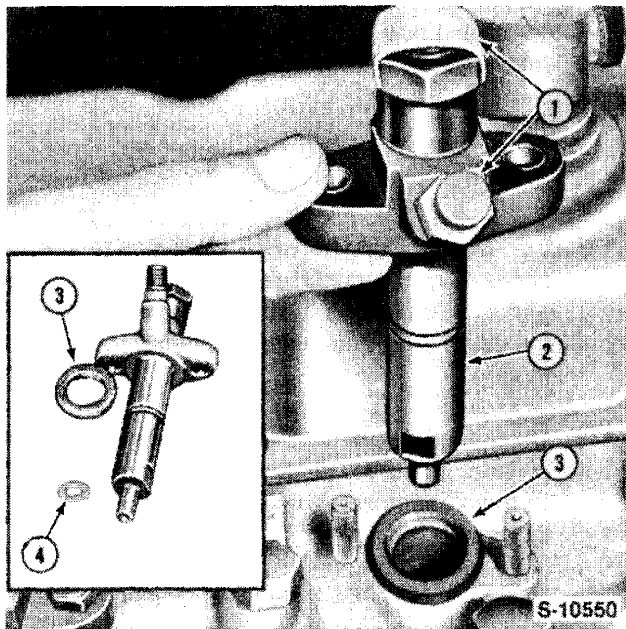

Figure 3
16. Remove the fuel injector leak-off line. Clean the area surrounding the fuel injectors then remove the retaining nuts and carefully withdraw the fuel injectors and sealing washers from the head, Figure 3.